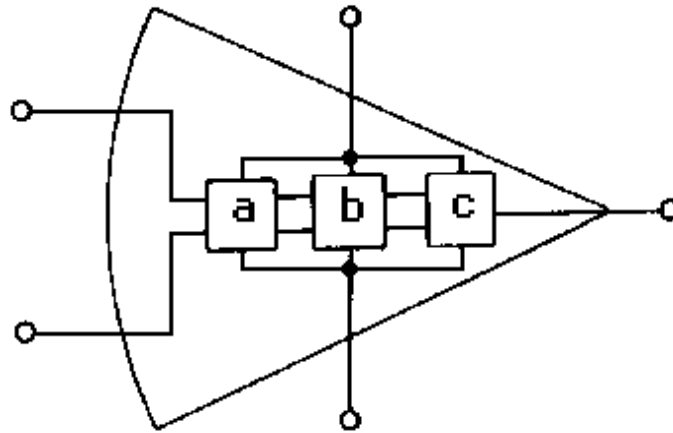

Figure 3-12.—Operational amplifier.
- Q-18. Label the parts of the operational amplifier shown in figure 3-12.